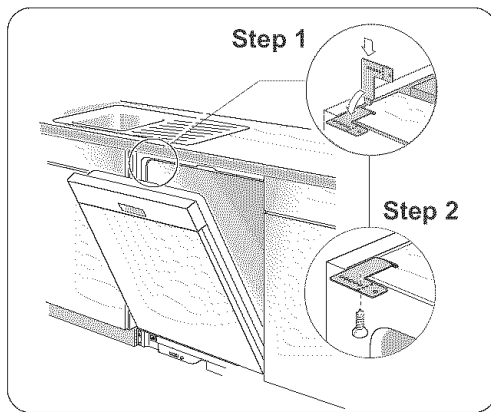

Figure 10
- 1 Top Mount** is used for countertops made of wood or other materials that can easily be drilled. Orient the mounting brackets as shown in **Figure 10**, and position the two small tabs on the mounting brackets over the two slots on the dishwasher's front corners. Push the mounting brackets down firmly to insert the tabs into the slots.